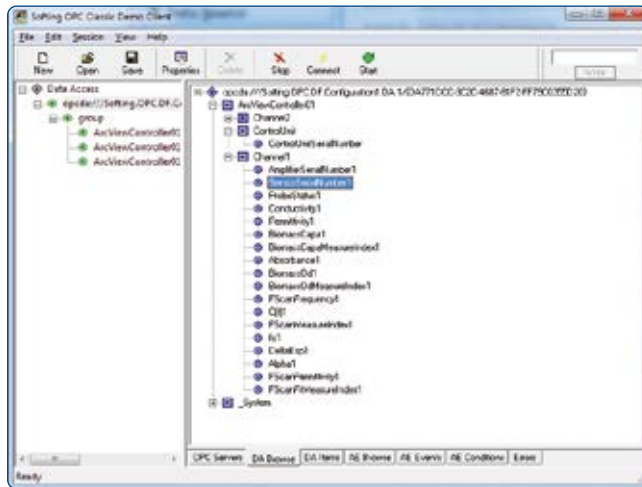

Figure 83: Selection of the DA Items.
18. Select the available DA items (types of information) in the tab DA Browse with right click and the selection add item (Figure 83).